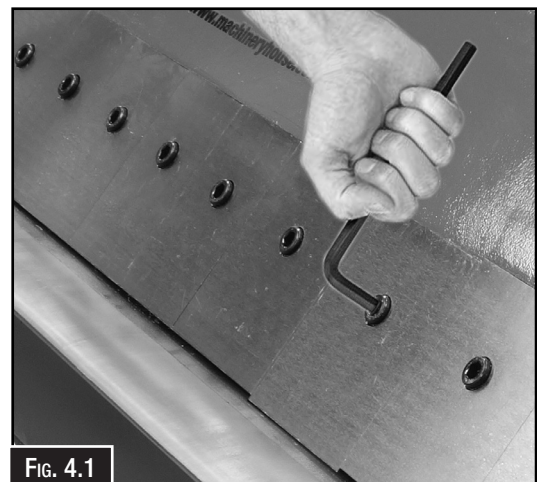

FIG. 4.1
3. If a finger is misaligned, then loosen the cap screw just enough to move it up or down. (Fig. 4.1)